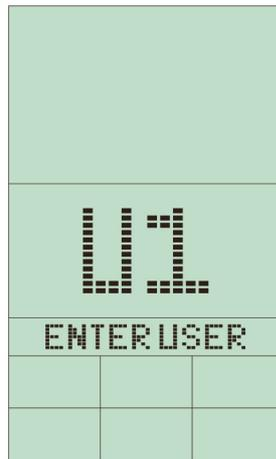

Figure 3
2. There are four user accounts in the console (U1-U4). Turn the control knob to select a user (1-4) and press ENTER to confirm (see fig. 3 and fig. 4).